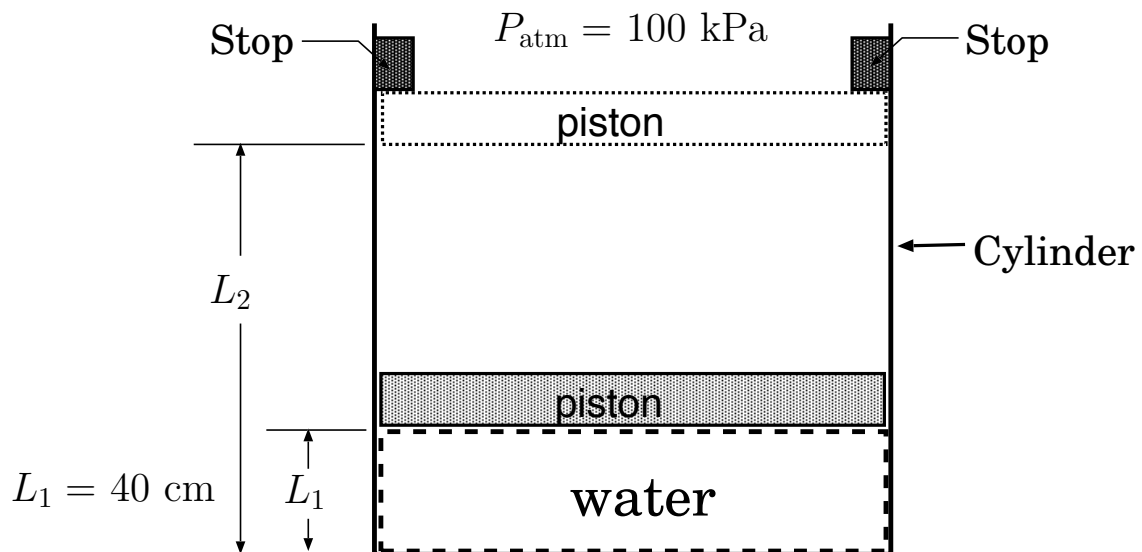

Figure 1: Schematic for Problem 2
2. A saturated mixture of water is contained in a piston-cylinder assembly as shown in Figure 1. The water has an initial quality of 15% and is at an initial pressure of 400 [kPa]. The diameter of the piston is 20 [cm] and it is initially at a distance of 40 [cm] from the bottom of the cylinder. The cylinder has a set of stops that limit the vertical rise of the piston. Heat is continuously transferred to the cylinder until a final pressure of 1000 [kPa] is reached. The atmospheric pressure above the piston is  $P_{\text{atm}} = 100$  [kPa]. Use  $g = 9.81$  [m/s2].